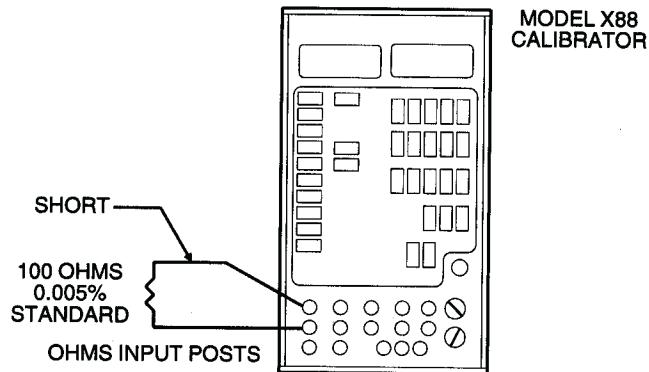

Figure 4-3: Ohms Input Calibration.
- a) Connect the Model X88 and the precision 100 ohm resistor as shown in Figure 4-3. Connect the resistor directly to the OHM binding posts to eliminate errors caused by test lead wire.